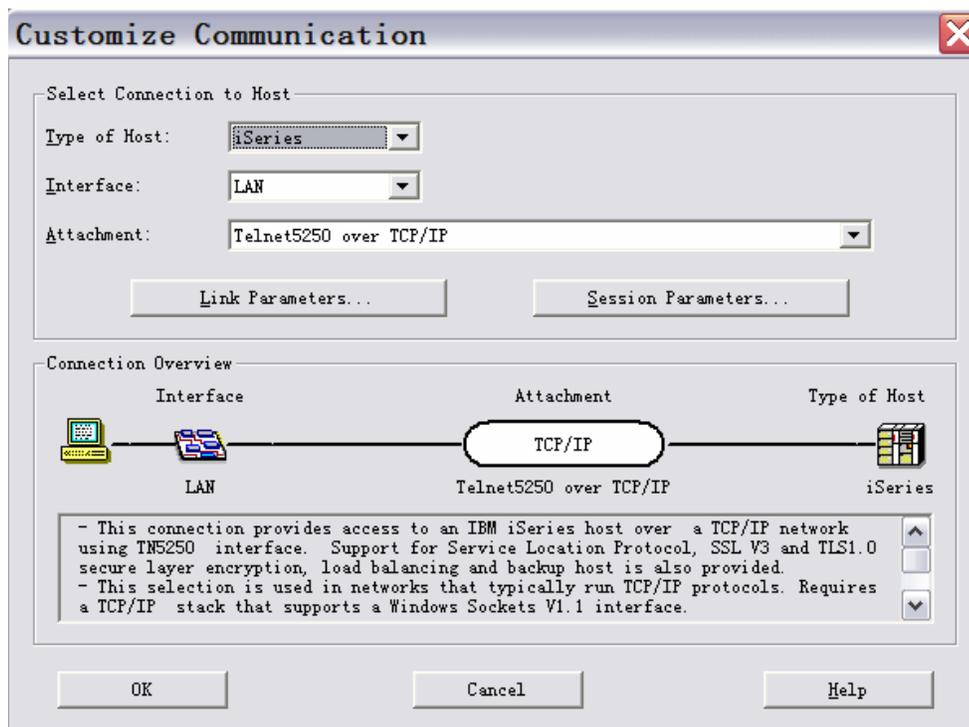

Figure 2-4 Create a new session with PC5250
1. Create a new session. Figure 2-4 provides an example of how to configure a new session.